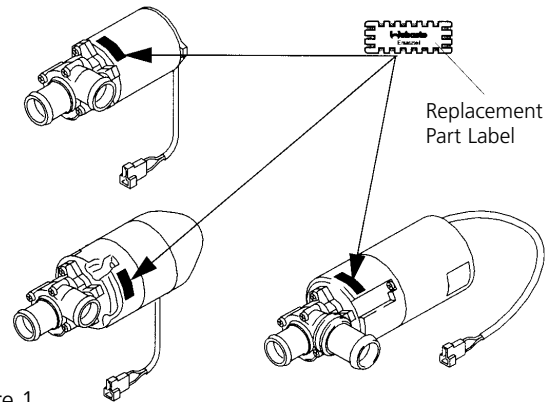

Figure 1
4. Remove pump base (item 9) with integrated axial seal (item 12) from its individual packaging.
5. Slip pump base (item 9) onto the motor shaft towards splash guard (item 11) and align it with the mounting holes on the motor flange.
6. Attach the pump base with screws (item 7) and spring washers (item 8) and tighten screws to 4 Nm. (35.4 lb-in.).
7. Remove sliding seal unit (item 5) from protective cover (item 13).
8. Align sliding unit (item 5) with motor shaft (flat regions) and slide it onto the shaft until it touches the limit stop.
9. Slide pump impeller (item 4) onto the motor shaft (sliding seal is self adjusting).
10. Install nut (item 3), adjust pump impeller (item 4) and tighten the nut to 1.5 Nm (13.2 lb-in.).
11. Install O-ring seal (item 6) on pump base (item 9) twist-free over the edge.
12. Place pump cover (item 2) over pump base (item 9), fasten with screws (item 1) and tighten screws to 2 Nm.
13. Punch out the dates of initial operation (month/year) on the "Webasto-replacement part" label and attach the label to the motor body, as shown in figure 1 on previous page.